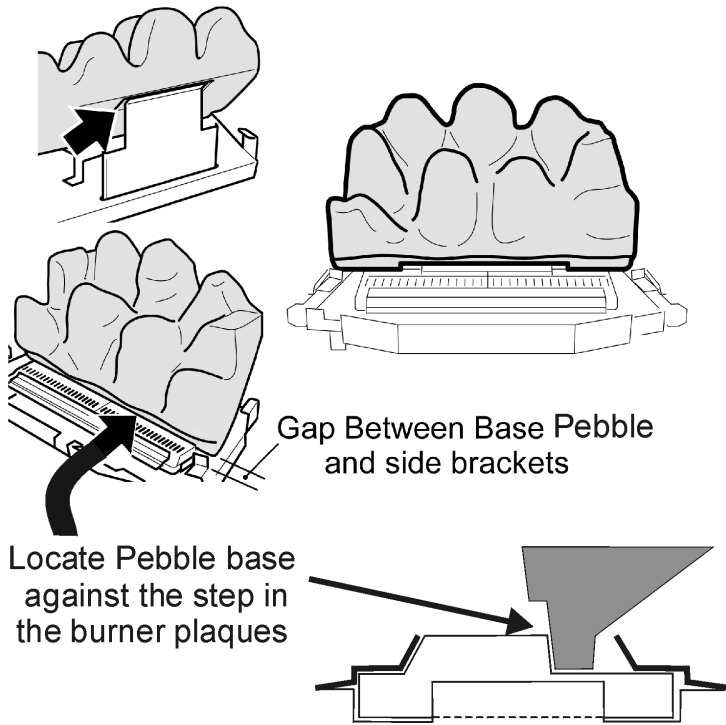

Figure 27. Ceramic Base Pebble Location
1. Place the ceramic pebble base in the burner compartment. The bottom rear face of the pebble base should rest on the angled ledge at the back of the burner tray. The bottom front lower edge of the pebble base should locate against the step in the burner plaques. ***The front edges of the pebble base should not come into contact with the metal tags to the side of the burner tray*** (See figure 27).